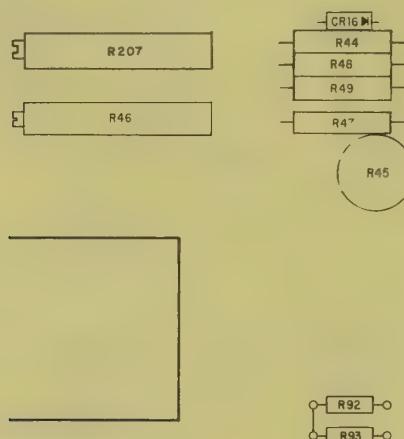

Figure US-7. Adding R207 to Preamplifier Assembly A2
- 13 Page 5-6: Add R207 to Figure 5-3 as shown in Figure US-7.